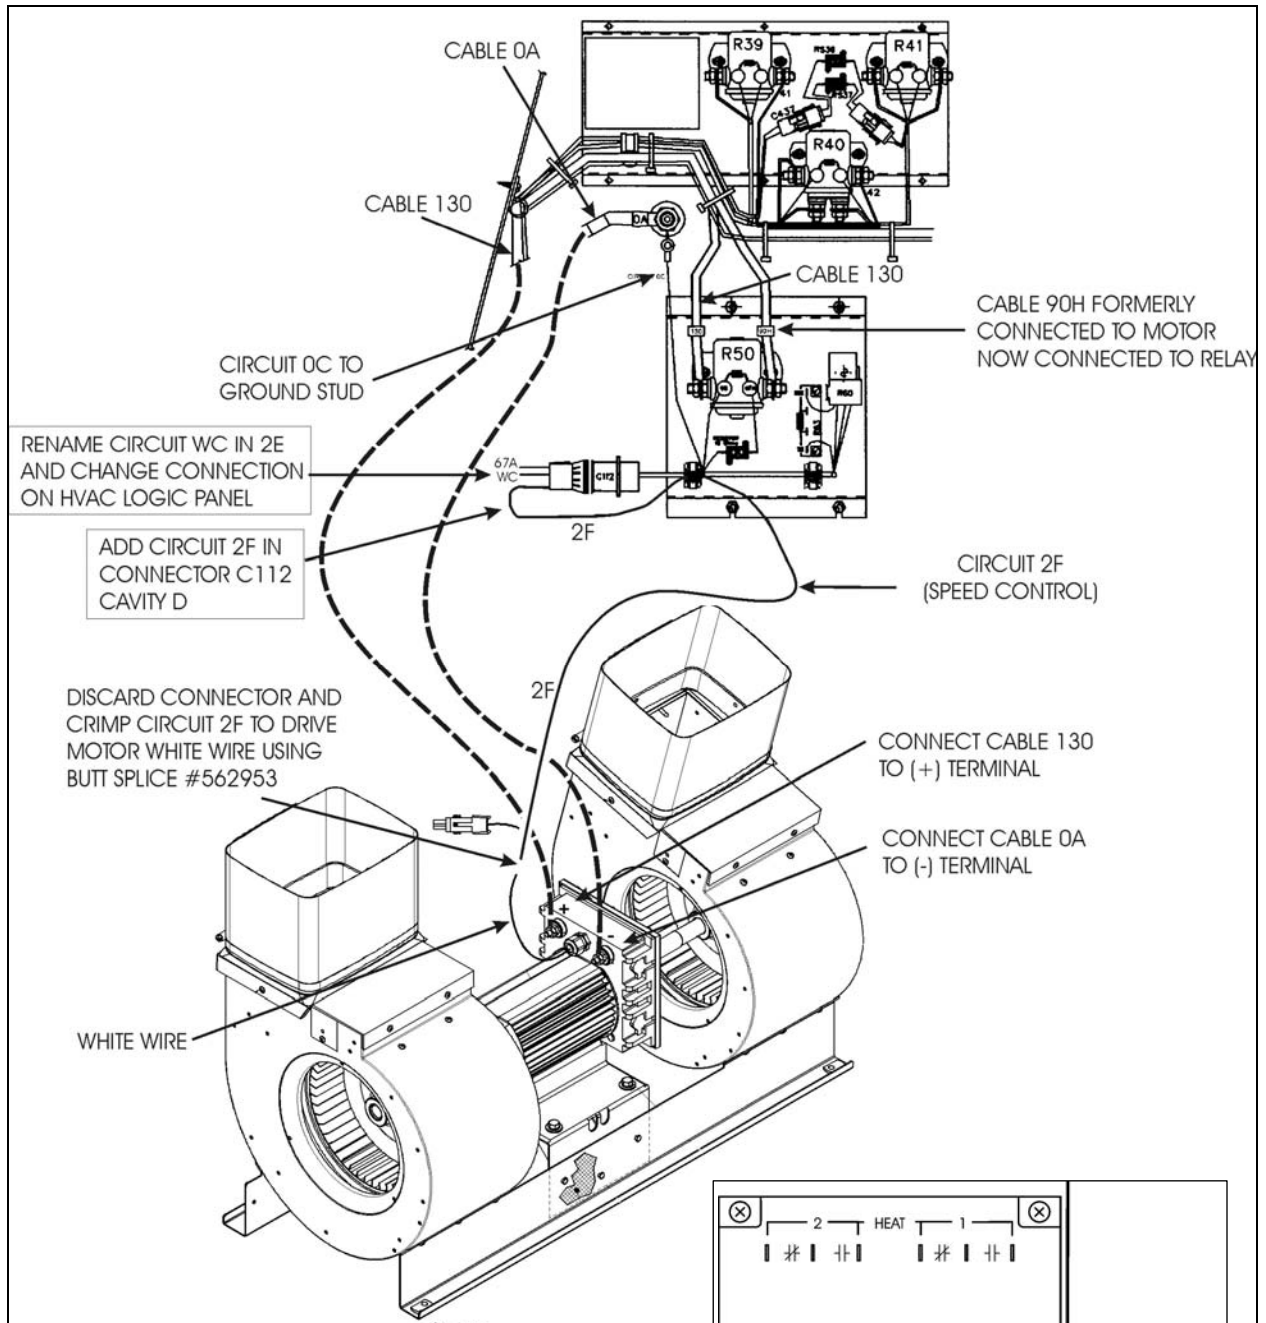

FIGURE 3: DOUBLE BLOWER FAN UNIT
13. Route cable no. 0A (#065360) and cable no. 130 (#065087) between motor terminals and relay plate. Connect cables as shown in figures 3 and 5. Also route wire 2F between relay plate and motor terminals.
14. At connector C112, change circuit WC name for 2E (figure 3).